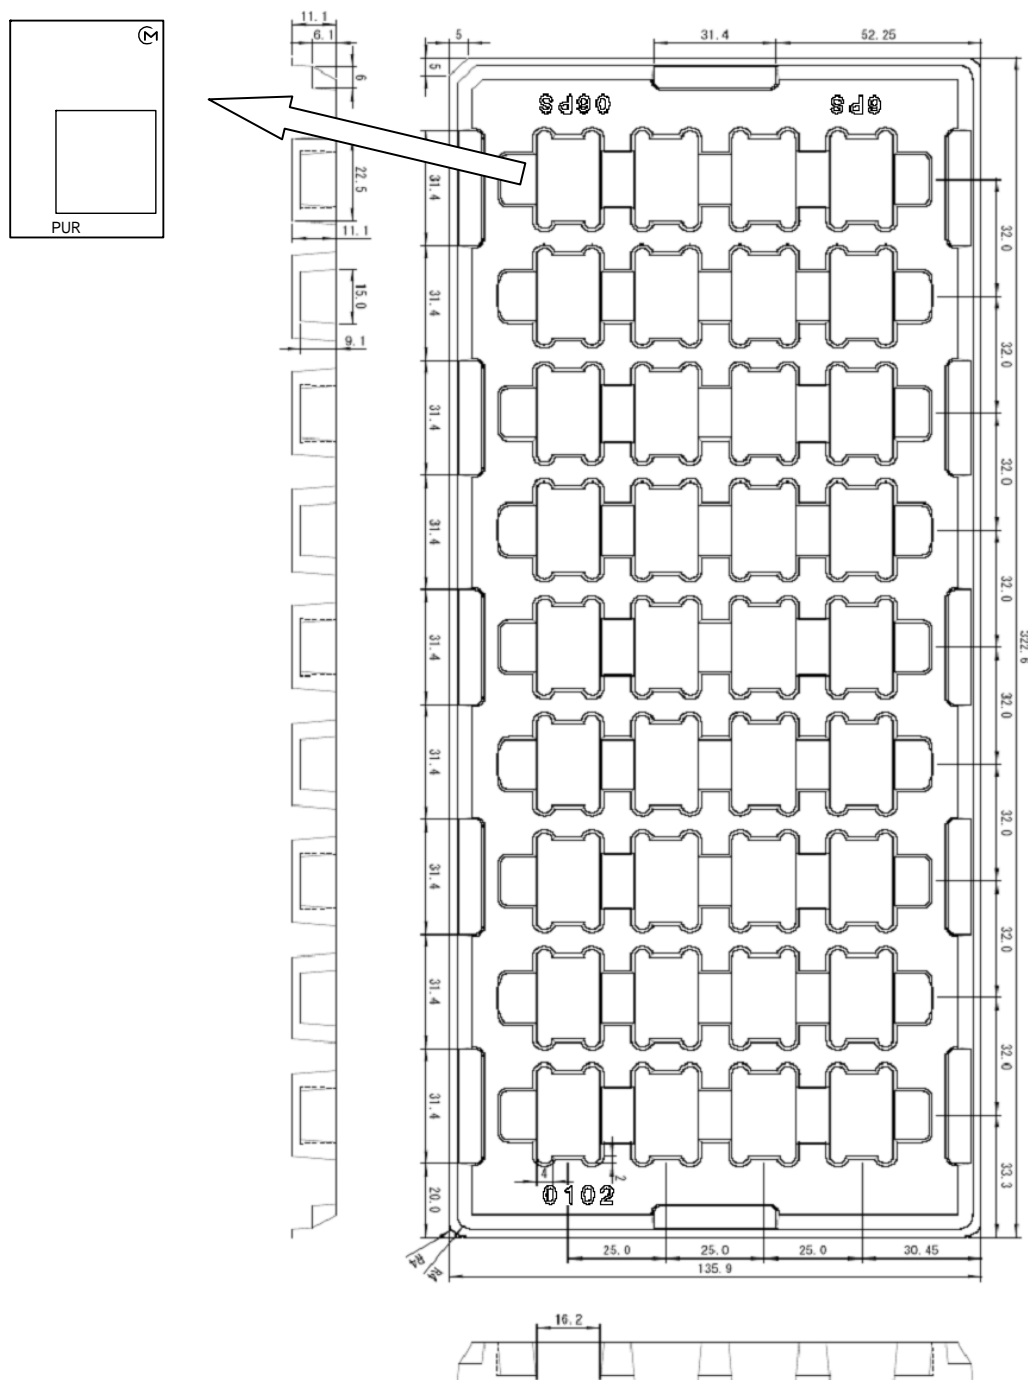

Fig.1
11.1. DC-DC converters are put in the trays. (see Fig.1)